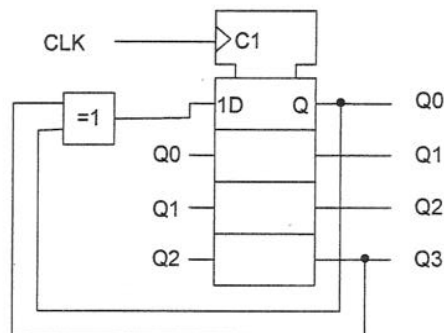

Figure 1.1
1. a) Figure 1.1 shows a Pseudo Random Binary Sequence (PRBS) generator implementing the primitive polynomial  $1 + x + x^4$ .